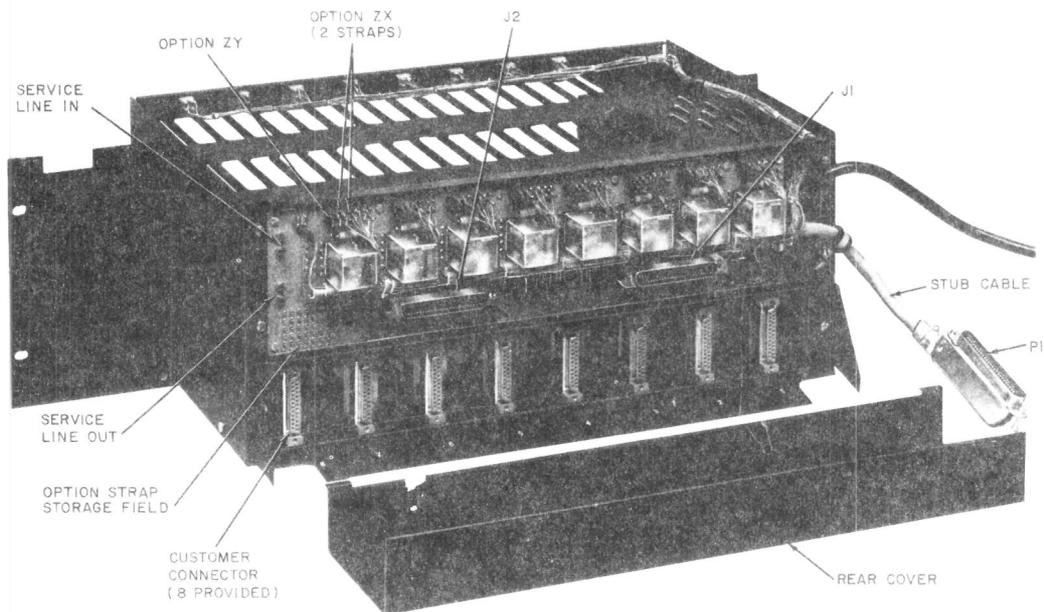

Fig. 4—40A1 Data Mounting (Rear View)
mounting are via printed flex tape. Connections for tel set lights, talk-data control, and ACUs are provided on the backplane, where they may be accessed through 50-pin connectors J1 and J2 (Fig. 4). Data sets in positions 1 through 5 will be on J1, and 6 through 8 will be on J2 (except for ACU connections).
**3.11** When the data sets are used behind line-hunting equipment, it is sometimes necessary to make the line look busy to avoid tying up the line-hunting equipment. With option ZX installed, the make-busy feature is accomplished for terminate-only lines by connecting 196 ohms across the line when a toggle switch mounted on the framework above each data set position is operated, or when the test relay is operated during remote test. Without option ZX, the make-busy feature is provided for assigned lines by another pair to the central office. Third wire (sleeve) make-busy arrangements are provided by grounding one wire of the pair external to the data mounting. Even if the make-busy circuit is not installed, operation of the make-busy switch will disconnect the data set from the line. Care must be used to avoid accidental operation of these switches. The make-busy pairs appear at the stub cable on P1 of the 40A1 data mounting along with the tip data line pairs (Fig. 4).